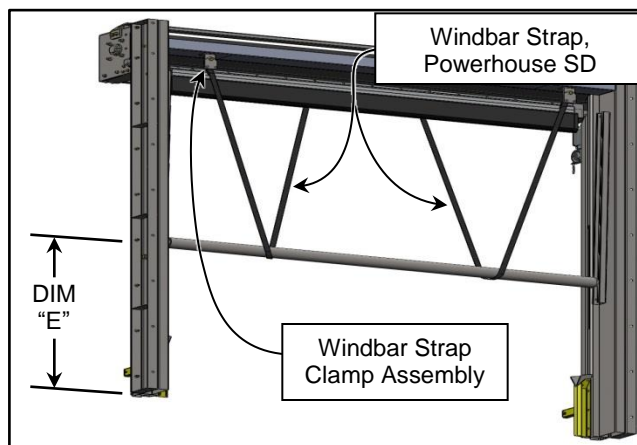

Figure 67
8. Route the Windbar Straps down from the panel drum between the Windbar and Panel, under the Windbar, and back up in front of the Windbar to the Rear Strap Clamp assemblies on either side of the Head Assembly Rear Pullout Spreader as shown. Make sure not to twist the straps, route them symmetrically, and along the shortest distance between the drum mount and the front truss mounted strap clamp assemblies. (See Figure 67)
10. Check that the Windbar is level and approximately Dim "E" from the floor to the Windbar centerline ("E" = Door Height / 2). Adjust the straps as required. (See Figure 67)